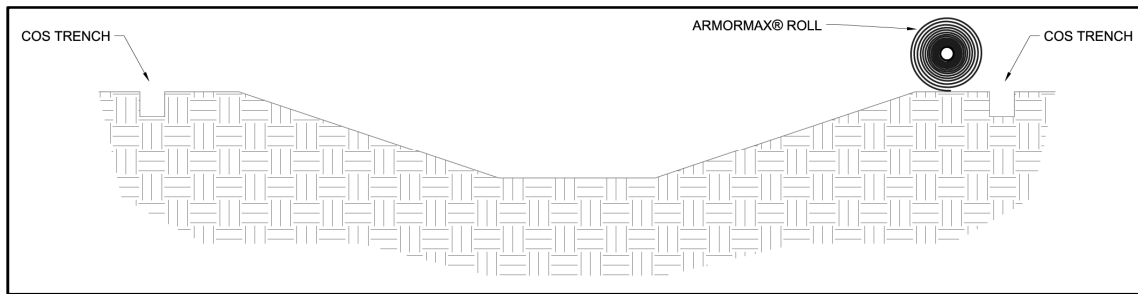
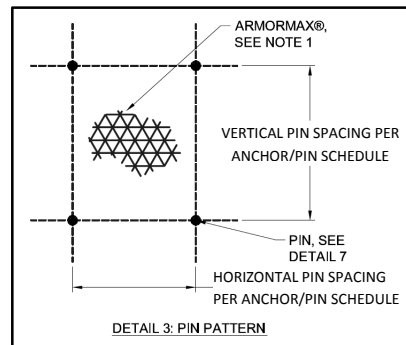
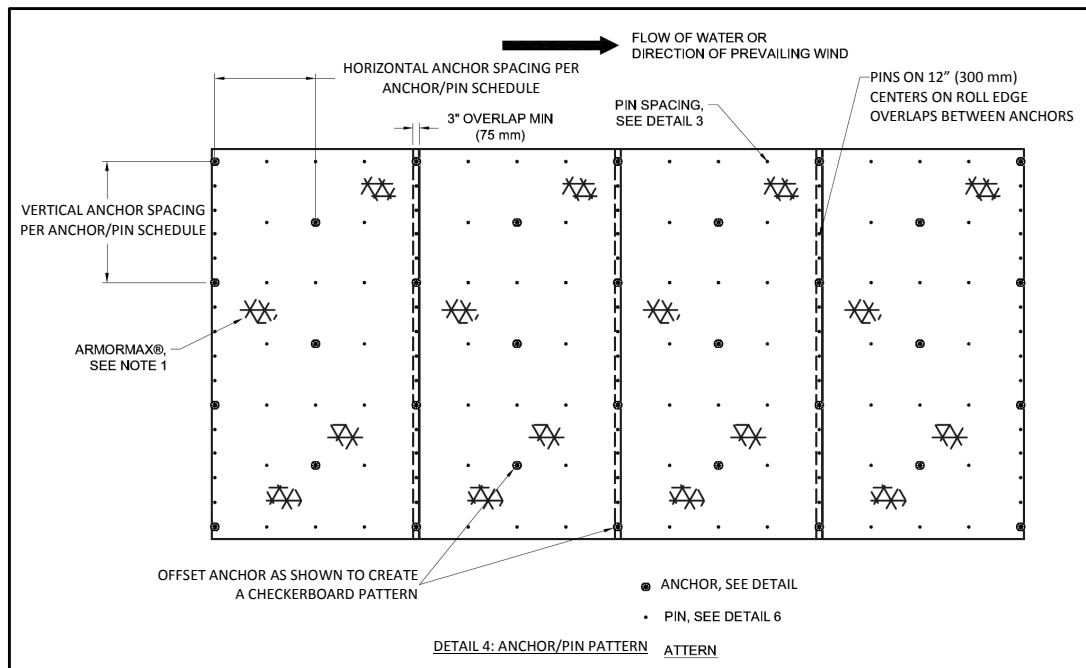

Figure 8: Crest of Slope (COS) Trench Alignment
Figure 11: Example Pin Pattern
Figure 12: Example Anchor Pattern - 0.5 Anchors/ Yd2
7. Place the next ARMORMAX panel by laying the ARMORMAX roll so that the roll end points towards the COS trench (Figure 8), with a 3 inch (75 mm) overlap created at adjacent panel edge locations. Ensure that adjacent panel edges maintain a minimum 3 inch (75 mm) overlap during ARMORMAX LAYDOWN (Figure 12).
11. Secure ARMORMAX panels in place using pins and anchors across the channel surface according to the project's engineered design. Pin and anchor placement should reflect a staggered checkerboard pattern across the channel surface for best results (Figure 11 and Figure 12).
- Roll edges shall be overlapped a minimum of 3 in (75 mm) with pins placed on 12 in (300 mm) centers in between anchors on 4 ft (1.2 m) centers (Figure 12).